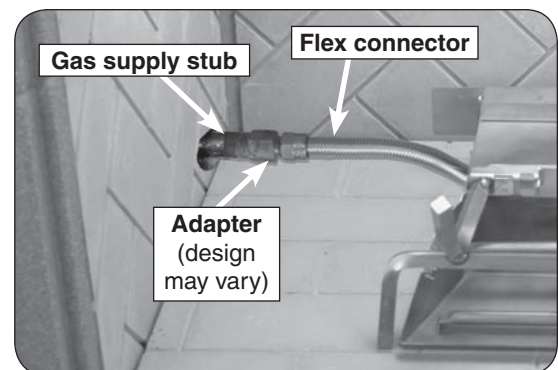

Fig. 8-2 Connect flex to gas supply
2. Locate the gas-supply stub inside the fireplace and remove the cap, if attached (reference Fig. 8-2).
5. **Be sure gas to the fireplace is off.** Remove the adapter connected to the flex connector. Attach the adapter to the gas-supply stub using a pipe compound resistant to all gasses. Tighten securely. Then attach the flex connector to the adapter. Tighten securely (See Fig. 8-2).